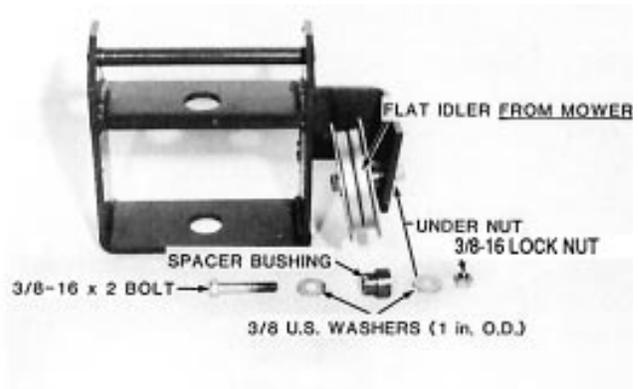

Figure 8
6. Slide a 3/8" washer, flat idler pulley, and a spacer bushing (with the smaller end toward the pulley) onto a 3/8"-16 x 2" bolt (Fig. 8).
7. Slide the bolt into the slot nearest the edge of the bracket on the hitch frame and secure it with a 3/8" washer and 3/8"-16 locknut (Fig. 8).